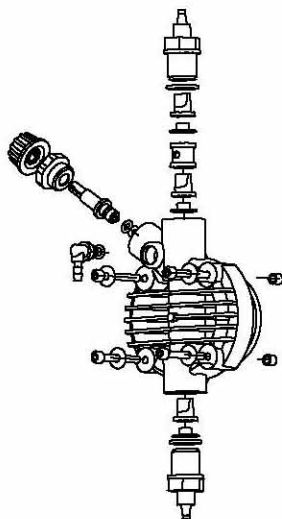

Fig. 10
3. Drain or flush all dosing liquid from the pump head. This operation can also be done with the pump disconnected from the plant by turning the pump upside-down for 15 to 30 seconds and without connecting the tubing to the nipples: if this operation is not possible, dismount and remount the pump head using the four mounting screws. (Fig. 10).
- the additive concentration in the pipework; a reduction of this concentration could be caused by the wearing of the valves, in which case they need to be replaced (Fig. 10) or by the clogging of the filter which then has to be cleaned as in point 3 here below.
This operation can also be done with the pump disconnected from the plant by turning the pump upside-down for 15 to 30 seconds and without connecting the hose to the nipples; if impossible, dismount and remount the pump head (Fig. 10) using the four mounting screws.